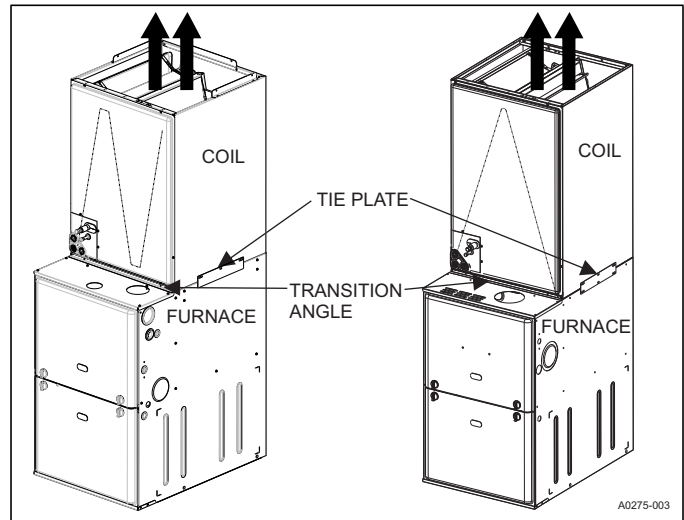

FIGURE 5: Vertical Upflow Applications with Furnaces
- Position the coil cabinet against the furnace or modular air handler opening as shown in Figure 5, 6, 7, or 8.